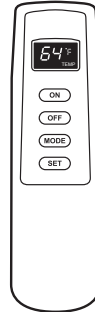

Figure 26 - Remote Control
4. Press the ON button on the remote control to light the burner (see Figure 26). You will hear a series of beeps. This will also "learn", or program, the remote and the receiver.
The factory setting for temperature is °F. To change this setting to °C, press the ON key and the OFF key on the remote control at the same time (see Figure 26, page 19). This will change from °F to °C. Follow this same procedure to change from °C back to °F.